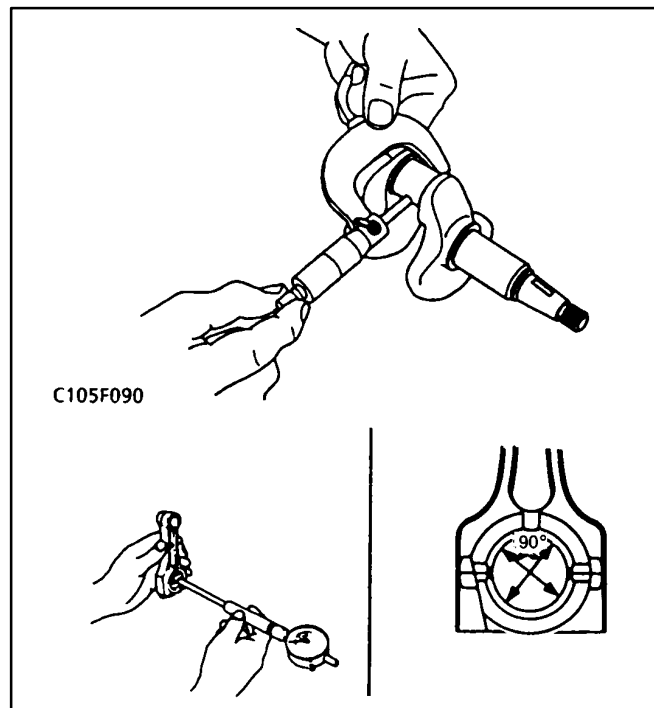

FIGURE 10-30. CRANK PIN AND CONNECTING ROD CLEARANCE
1. Measure the crank pin O.D. and the connecting rod big end bore with a micrometer, and calculate the difference (Figure 10-30).